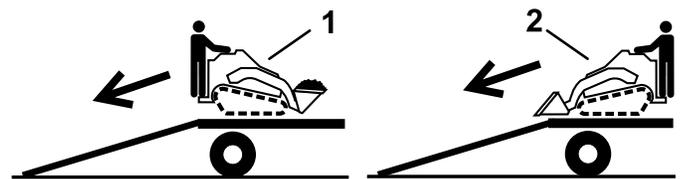

Figure 36
2. Unload the machine from the trailer with the heavy end up the ramp, carrying loads low (Figure 36).